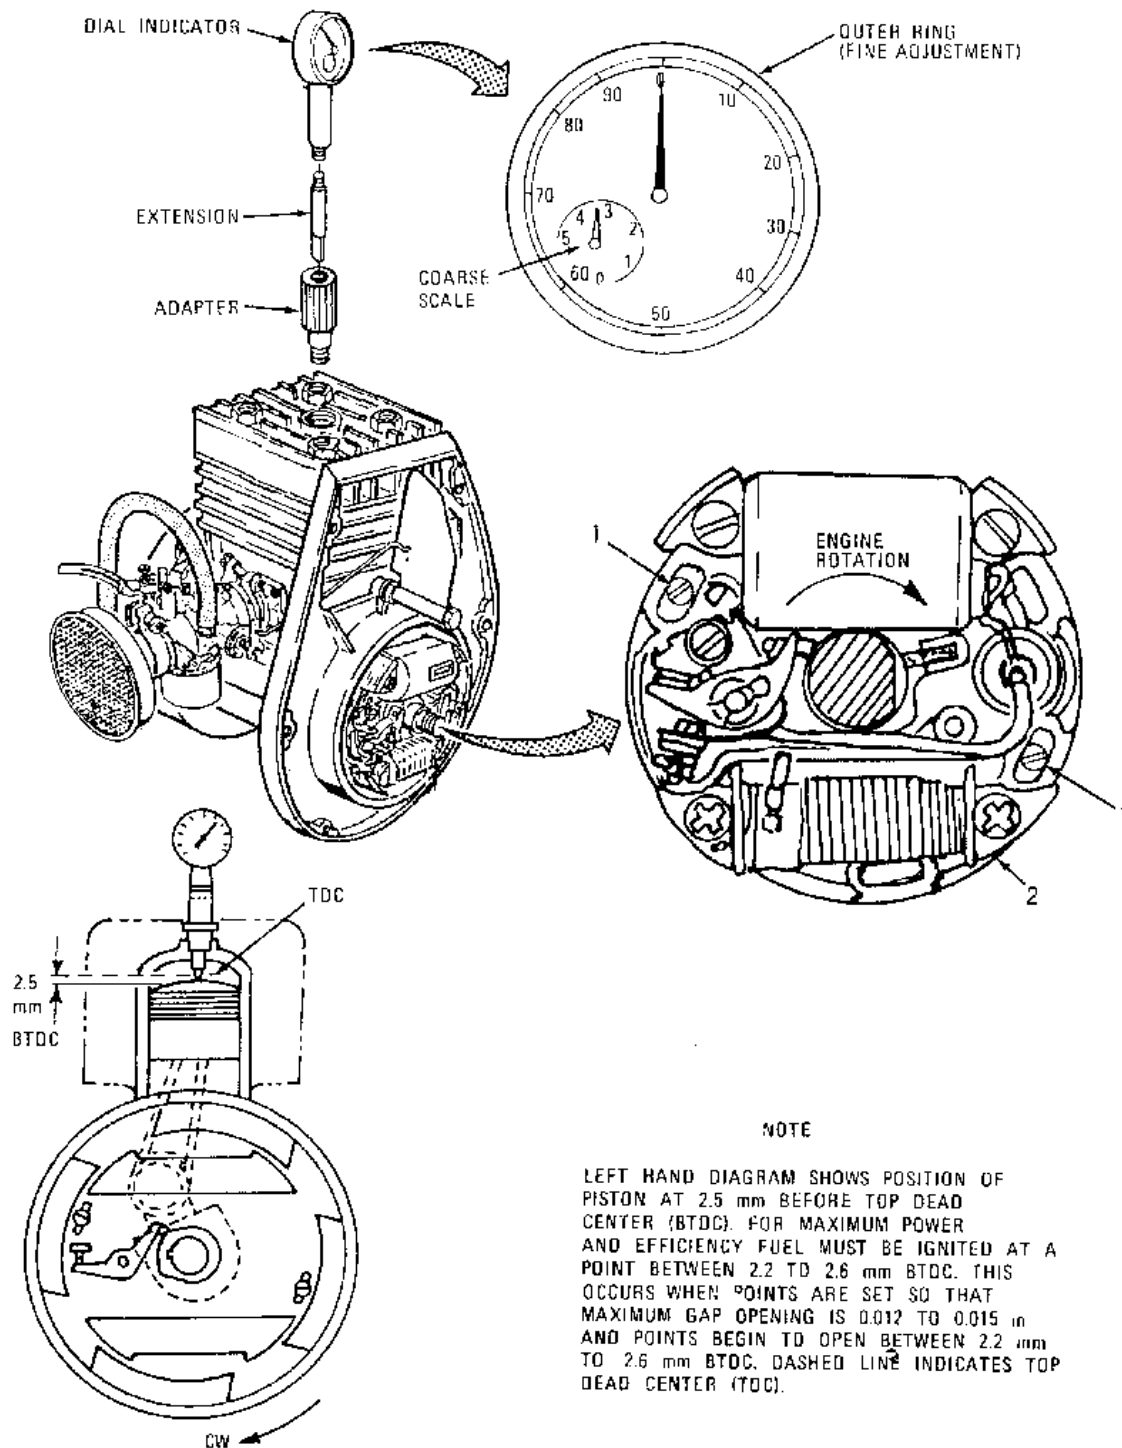

Figure 6, Engine Timing Check/Adjustment
Step 7: Engine timing check/adjustment. (Figure 6)